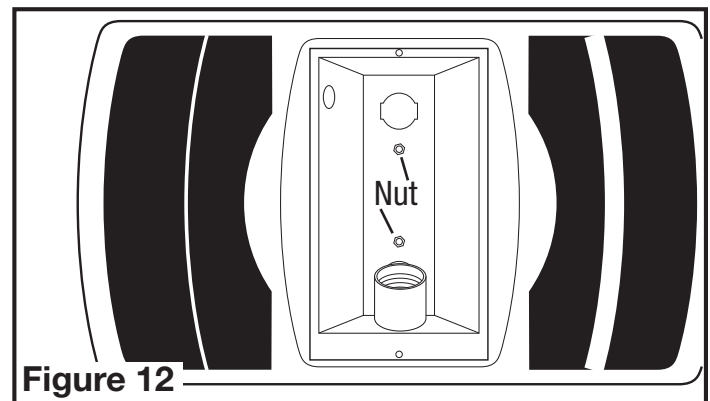

Figure 12
5. Attach light reflector in place with the two nuts removed during *Step 2* in SECTION 1 *Preparing the Unit* so grill fits snugly against ceiling (**Figure 12**).